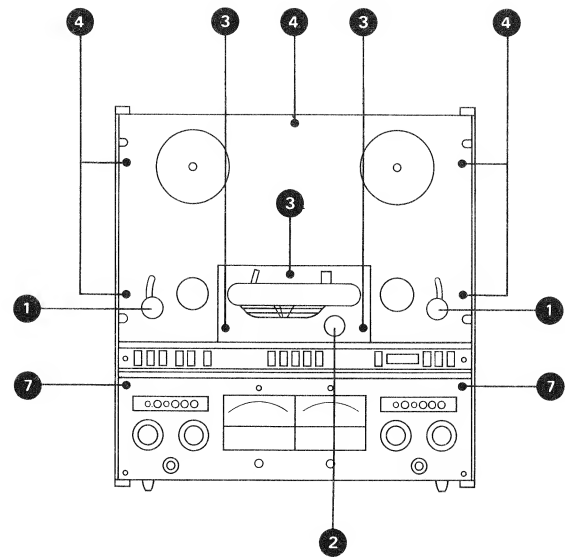

Fig. 2.2.-5
- Unscrew 7 screws (fig. 2.2.-4).
2.2.6. Removal of the front panel (fig. 2.2.-5)
- Remove the rollers (1) of the tape tension sensors together with the two covers (no tools necessary).
- Remove the pinch roller (2) after unscrewing the cover (no tools necessary).
- Remove tape head assembly, unscrew 3 screws (3).
- Unscrew 5 screws (4).